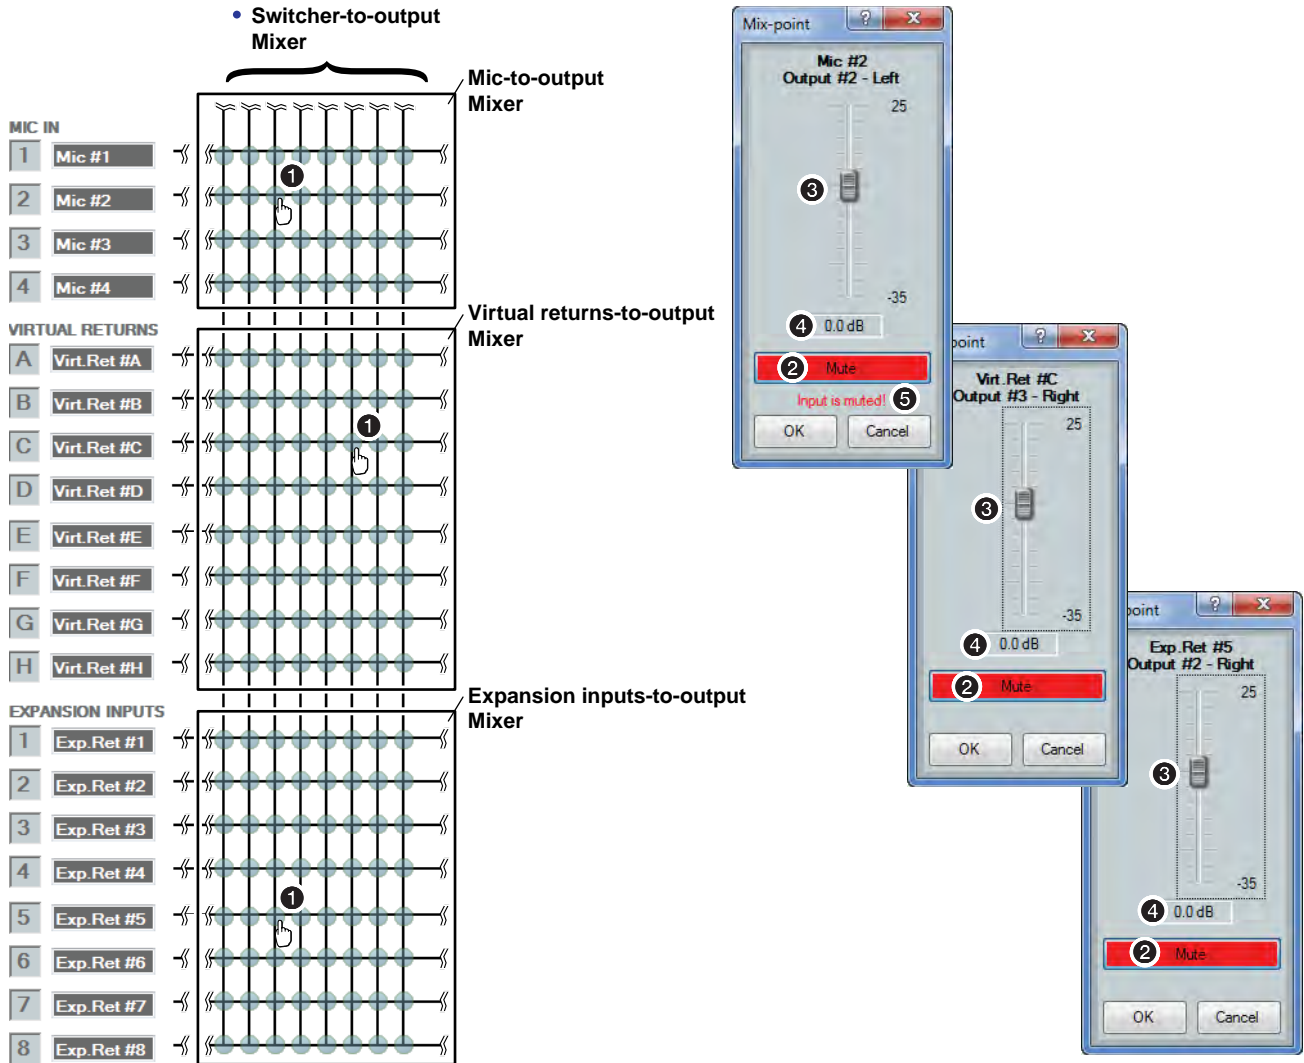

Figure 47. Output Mixer Blocks and Mix-point Dialog Boxes
These three mixer blocks (see figure 47) are an array of points where mic, virtual bus, and expansion bus audio can be further mixed into the left and right channels of audio outputs 1 through 4. The block provides a way to unmute and mute the inputs from the mic/line input, virtual bus, or expansion bus signal processor chains. The mix-points are muted by default. Unmuting effectively mixes the inputs into the audio outputs at the level set in the mix controls.
- The message **Input is muted!** in figure 47 (6) indicates that **Mute** is selected in the mic/line input gain control block. This message can appear **ONLY** for mix-points in the mic-to-output mixer block.